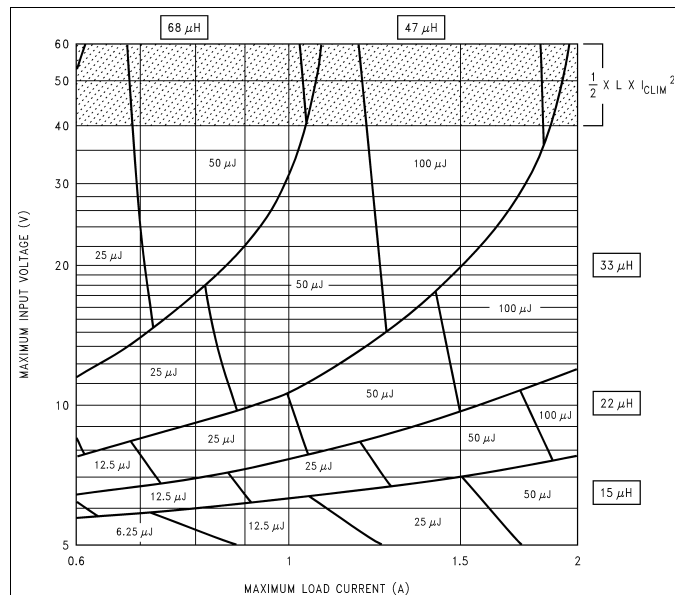
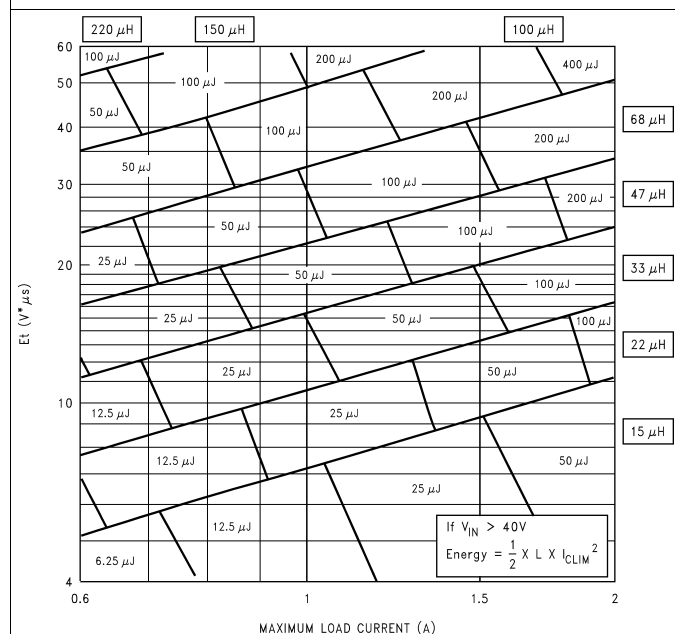

Figure 33. LM2593HV 3.3-V
Figure 35. LM2593HV Adjustable Voltage
See application note *AN-1197 Selecting Inductors for Buck Converters (SNVA038)* for detailed information on inductor selection. For a quick-start, see the nomographs provided in Figure 33 to Figure 35. To widen the choices to a more general selection of available inductors, the nomographs provide the required inductance and also the energy in the core expressed in microjoules (μJ), as an alternative to just prescribing custom parts. The following points must be highlighted:
5. Figure 35 shows the inductor selection curves for the adjustable version. The y-axis is Et , in $\text{V}\mu\text{s}$. It is the applied volts across the inductor during the ON time of the switch ($V_{\text{IN}} - V_{\text{SAT}} - V_{\text{OUT}}$) multiplied by the time for which the switch is on in μs . See Example 3.
1. Because input voltage is less than 40 V, a first pass inductor selection is based upon inductance and rated maximum load current. Choose an inductor with the inductance value indicated by the nomograph Figure 35 and a current rating equal to the maximum load. But first calculate E_t for the given application. The duty cycle is Equation 5.
3. Therefore, looking at Figure 33, quick-select a 47- μH , 2-A inductor (designed for 150-kHz operation) for this application.
4. Confirm that it is rated to handle 200 μJ (see Figure 35) by the procedure shown in *AN-1197 Selecting Inductors for Buck Converters (SNVA038)* and that the losses are acceptable. (If the DC input voltage had been greater than 40 V, consider e_{CLIM} as in Example 2).